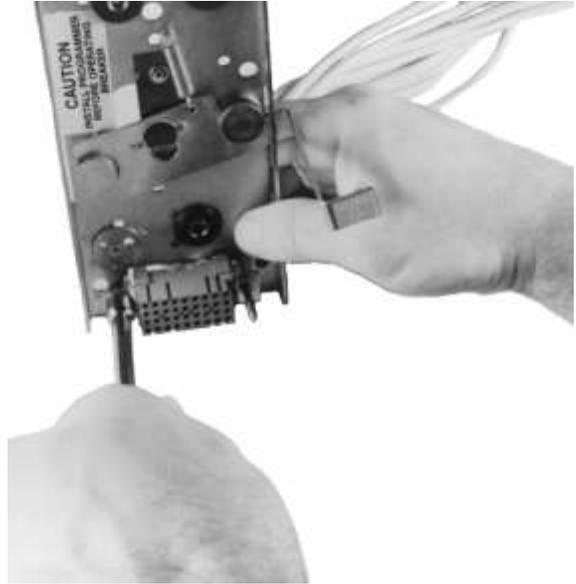

Figure 12. Installing the push nuts onto the guide pins
4. Slide the adapter bracket and connector assembly over the guide pins of the trip unit bracket. Press the two steel push nuts provided onto the guide pins using a nut driver, as shown in Figure 12, until the assembly is held firmly against the trip unit mounting plate.
1. Pull out the locking lever on the trip unit mounting plate until it snaps into the open position, as shown in Figure 12.